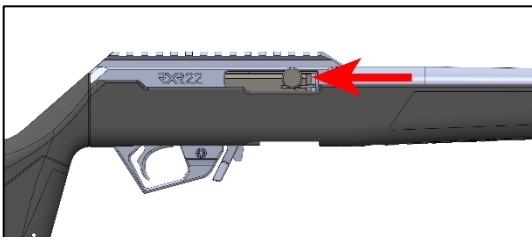

Figure 19
- Keep the muzzle pointed in a safe direction and keep your finger away from the trigger and outside the trigger guard. Grasp the cocking handle and briskly pull it fully rearward to extract any cartridge from the barrel's chamber and clear it from the firearm – Figure 19.